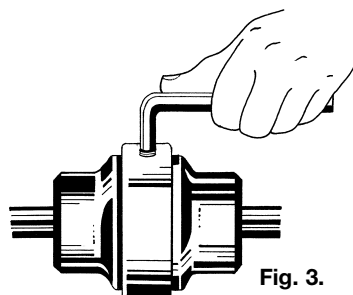

Fig. 3.
The outer retaining ring (4) is made of steel or polyamide, with interior pins for adjusting this ring on the elastic insert. The ring also has two threaded holes, symmetrical to each other, through which two set screws can be fitted. The set screws are aligned to a mating holes in the elastic insert and once secured ensures that the ring can not move during operation (see. fig. 3).
If the alignment cannot be kept within the admissible tolerance, the ring can be secured using locking set screws (fig. 3).